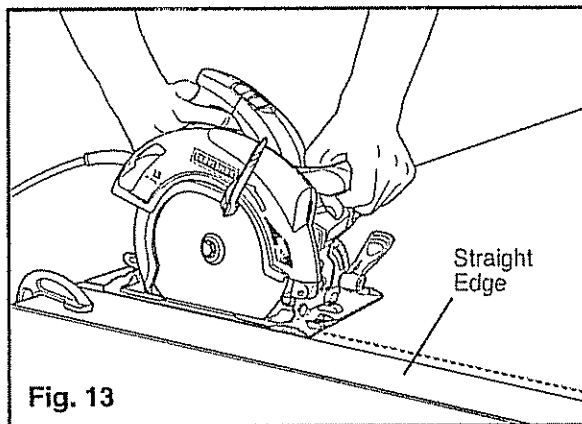

Fig. 13
#### USING A STRAIGHT EDGE (Fig. 13)
2. Carefully guide the saw along the straight edge for a straight rip cut (see Fig. 13).